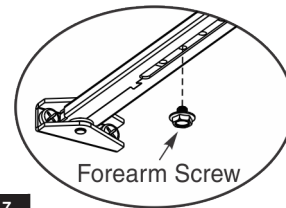

Figure 7
3. Using 7/16" wrench, loosen forearm screw in main arm rod and adjusting tube so that main arm can slide out of tube. (Figure 7)